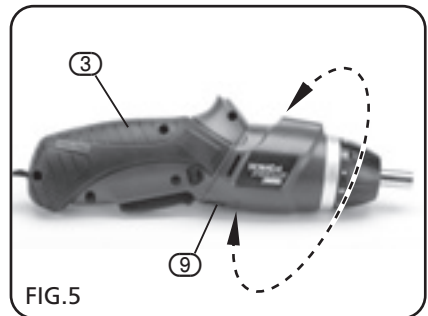

FIG.5
8.4 ADJUSTING THE HANDLE POSITION – FIG. 5